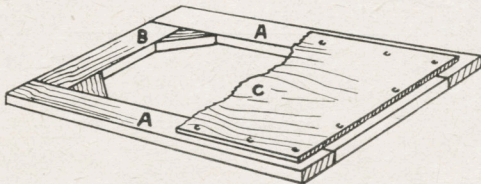

Fig. 1—A cut-away view of base framework
Commencing with the base, there are two long rails (A) and two end rails (B) butted together as shown in Fig. 1. They are held by gluing angle blocks in the four inside angles. This makes a sufficiently strong frame until the covering of plywood is screwed on when a perfectly firm base results.
In Fig. 1 a portion of the plywood is purposely shown cut away to show clearly the frame and angle blocks. The screws for the fixing of the plywood are also shown spaced out round the edges.